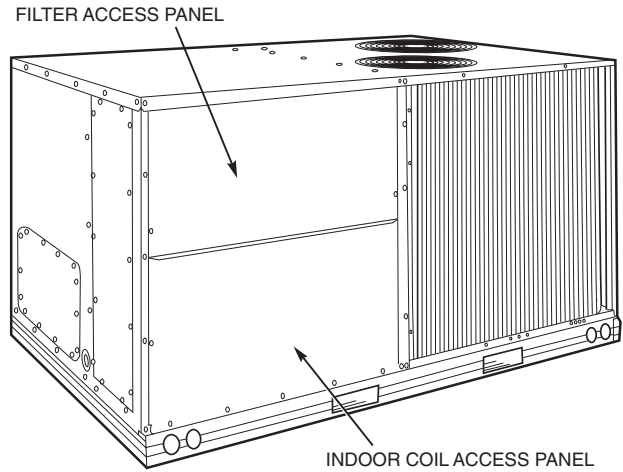

Fig. 17 — Typical Access Panel Locations
1. To remove the existing unit filter access panel, raise the panel and swing the bottom outward. The panel is now disengaged from the track and can be removed. See Fig. 17.